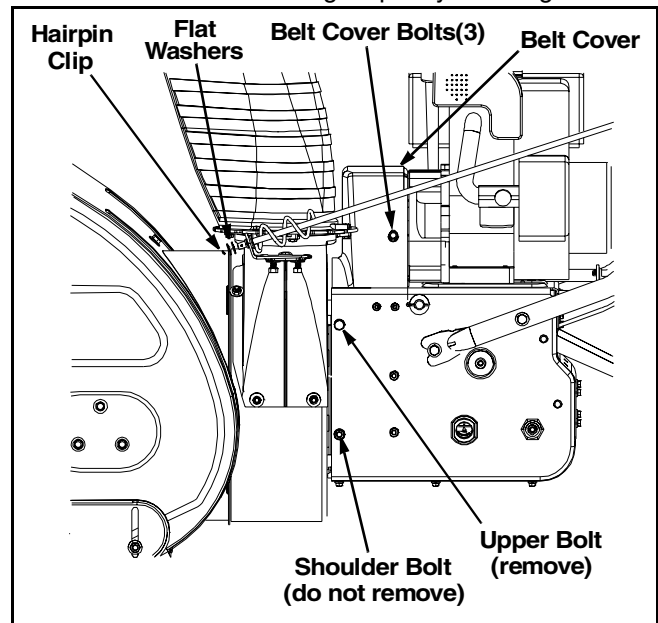

Figure 17
- Remove the plastic belt cover, located near the engine, by removing the three self-tapping screws and flat washers that secure it. See Figure 17.